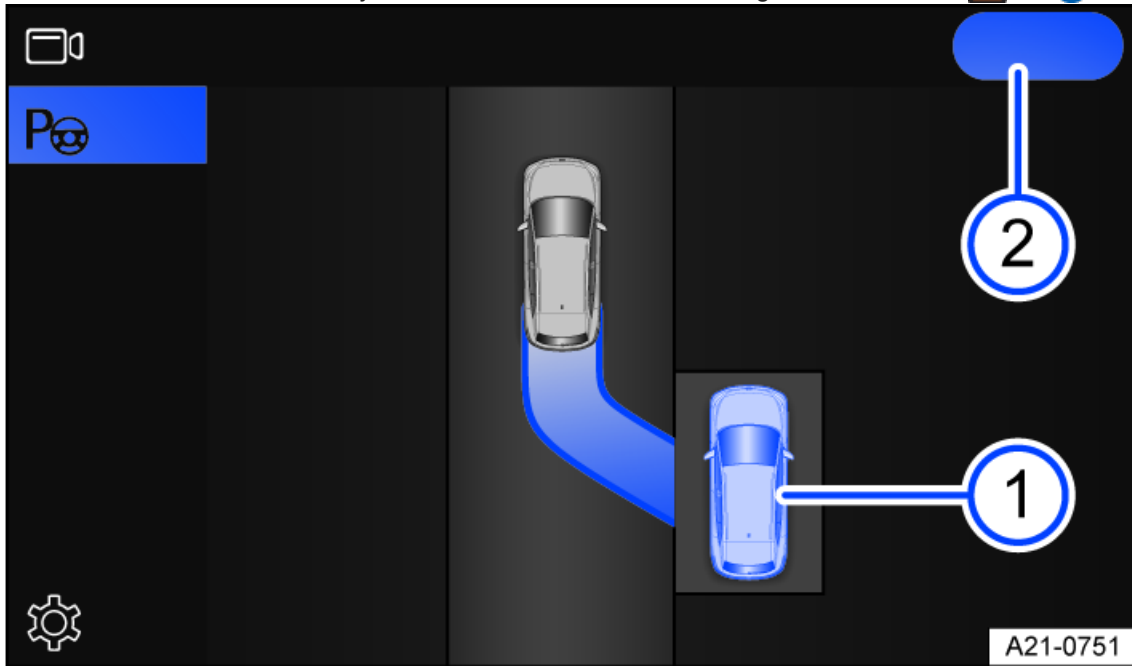

Fig. 119 Infotainment system: starting the exiting procedure (general example).
- ① Vehicle in a parallel parking space.
- ② Start the exiting procedure.
5. Tap **(Start)** on the Infotainment system screen *fig. 119*.